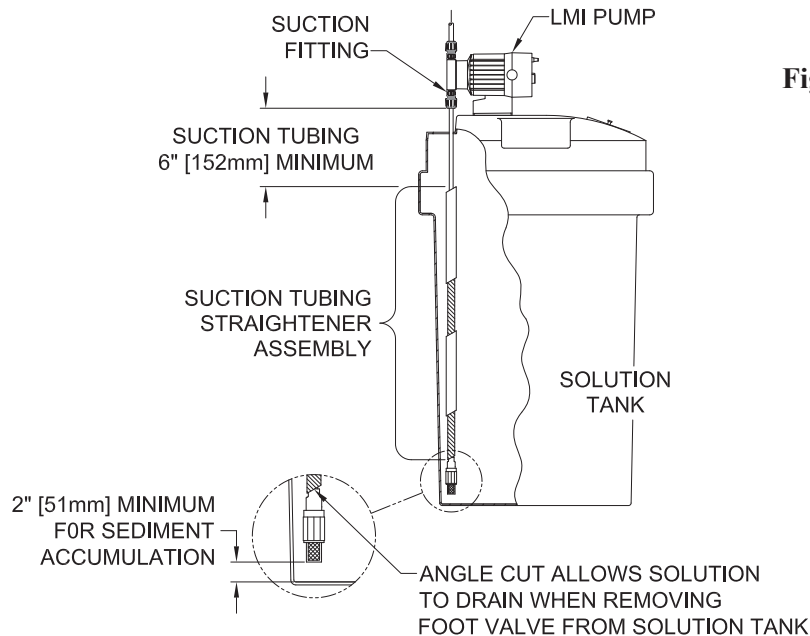

Figure 1
4. Slide the tubing straightener over the suction tubing (black tube first) so the black inner tube contacts the top of the foot valve coupling nut (Figure 1).
5. A minimum of 6 inches (152 mm) of suction tubing should exit the tubing straightener at the top so the connection can be made at the suction fitting on the pump head (Figure 1) according to the instructions on the Liquid Handling Assembly sheet.
6. Install foot valve, tubing and tubing straightener assembly into solution tank and attach tubing to suction fitting on pump head (Figure 1).